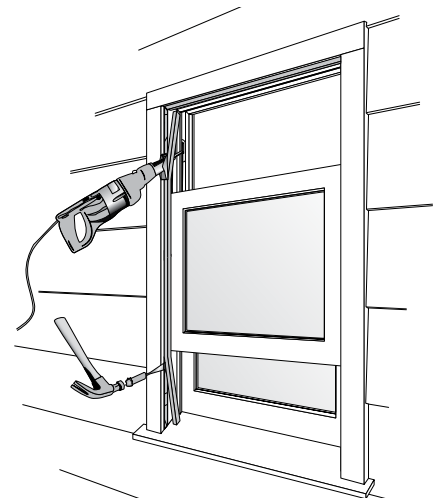

Figure 4. Remove outside stops.
- Remove the outside stops in one of two ways: when the exterior trim will be wrapped with aluminum after the installation, use a reciprocating saw; when the exterior trim is to remain exposed, use a chisel to prevent marring the surface of exterior trim. (Figure 4)